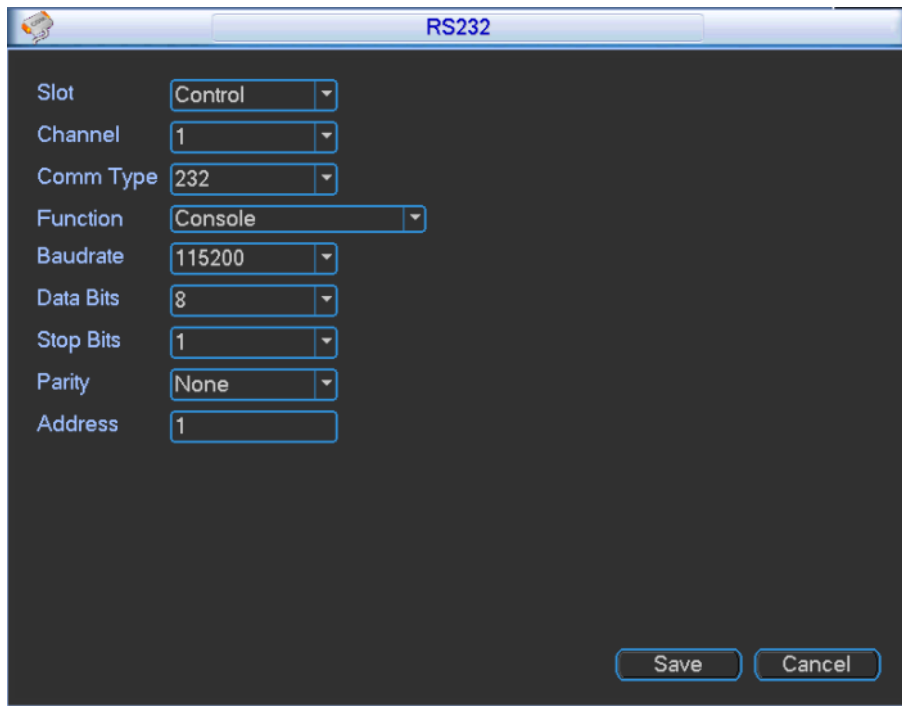

Figure 3-36
Step 1 In main menu, select "Setup>RS232", and the system displays "RS232" interface, as shown in Figure 3-36.